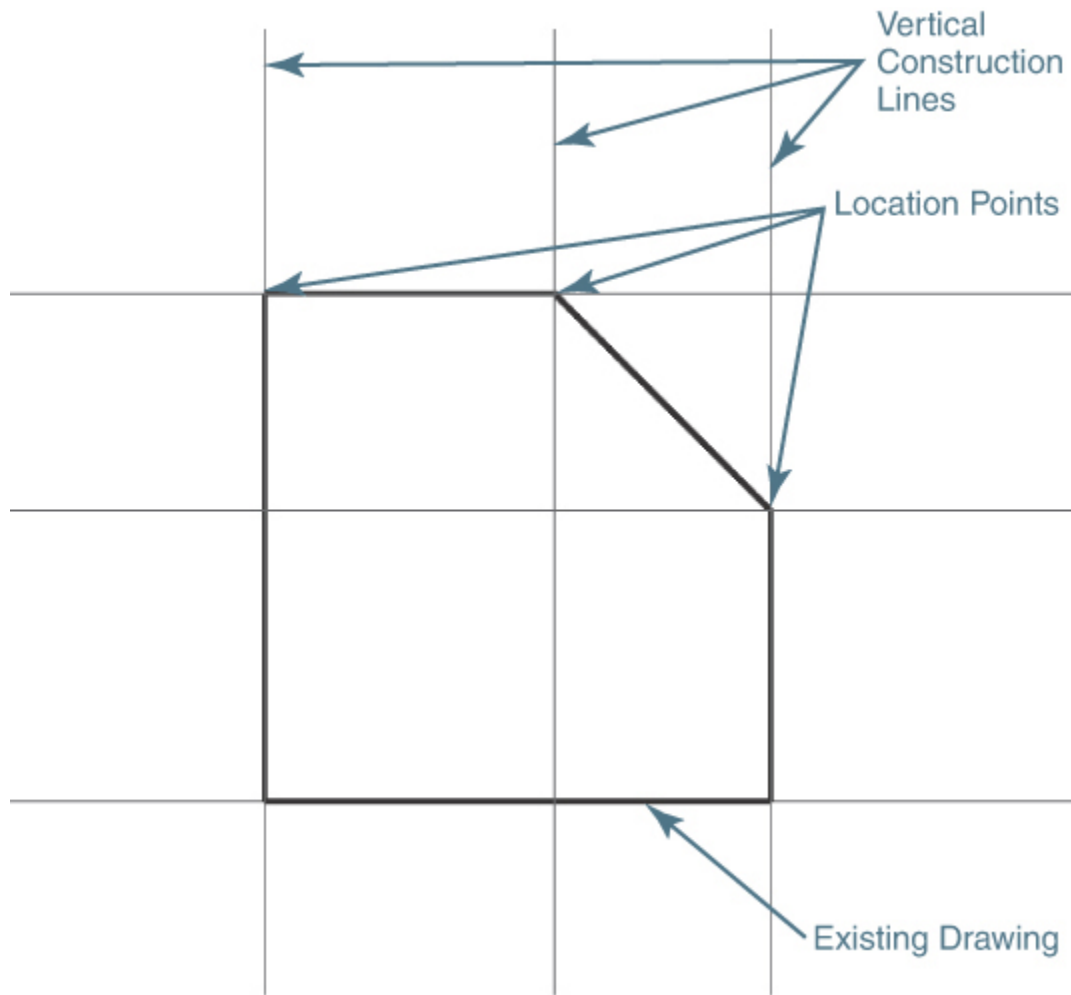

Figure 5-60B
- 13** Create three vertical construction lines by snapping to the three endpoints using the **Endpoint** object snap, as shown in Figure 5-60B.